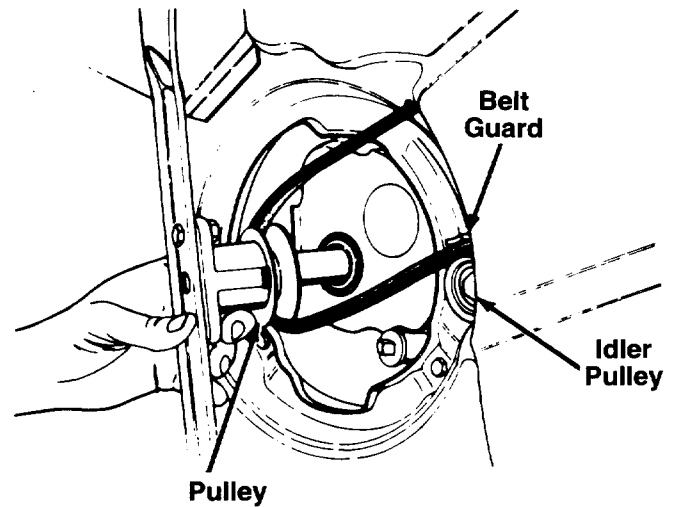

FIGURE 20.
7. Loosen (do not remove) the bolt which secures the idler pulley so you can remove the belt from between the idler pulley and the belt guard on the idler pulley bracket. See figure 20.